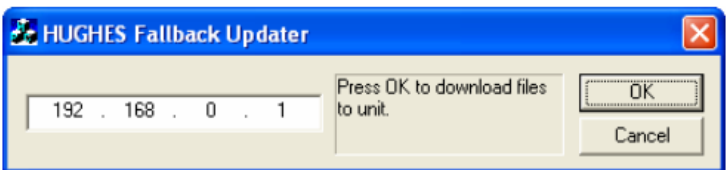

Figure 78: Entering the router's IP address
4. Type **192 . 168 . 0 . 1** in the IP address field on the Fallback Updater window as shown in Figure 78. This is the router's IP address.